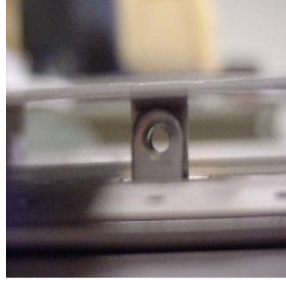

Figure 6:
- Using a screwdriver, align the hole in the locking tab with the threaded hole on the interface bracket in the front mounting tab as seen in Figure 6.